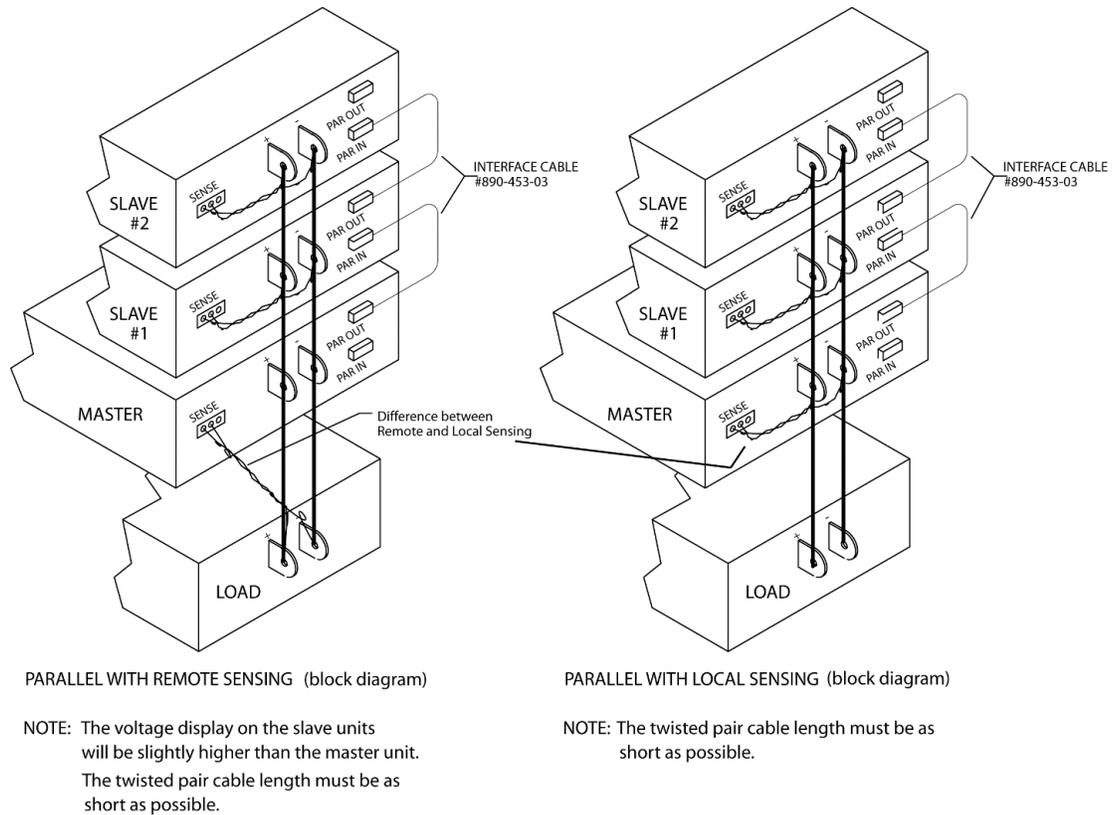

Figure 3-111. Parallel Connection and Remote Sense
In order to connect up to five power supplies in parallel, use a “Master/Slave” daisy-chain wiring configuration as follows; refer to Figure 3-111:
7. Referring to Figure 3-111, connect twisted-pair sense cables as follows; ensure that all twisted-pair cables are as short as possible: